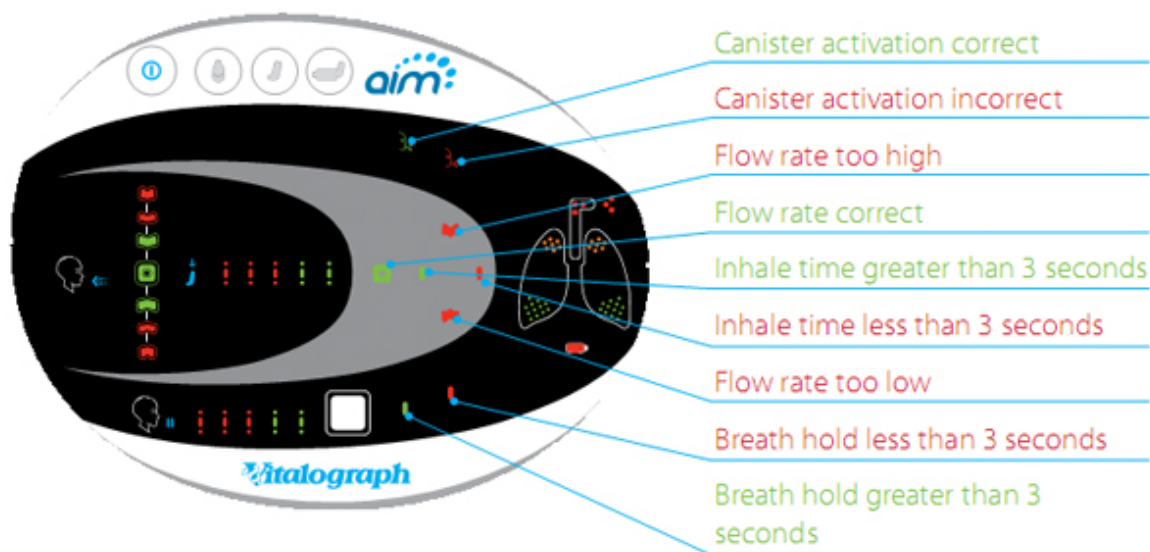
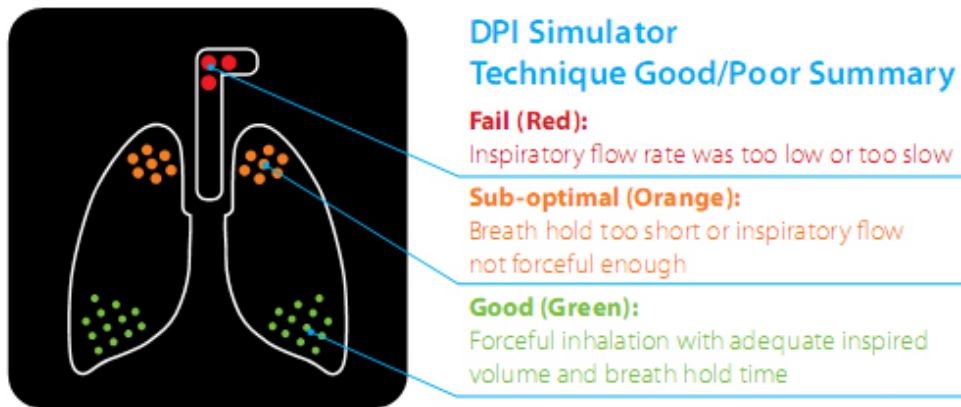

Figure 3: Results lights
Figure 4: DPI Simulator Technique Summary
7. The individual results lights (see Figure 3) and TechniqueGood/Poor summary (see Figure 4 - 6) will then appear.